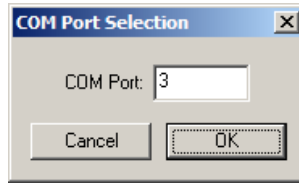

Figure 13. COM Port Selection
- Once the COM port has been determined, press the "Select COM Port (COM_)" option in the Compass application. Enter the correct COM port into the "COM Port Selection" window shown in Figure 13.